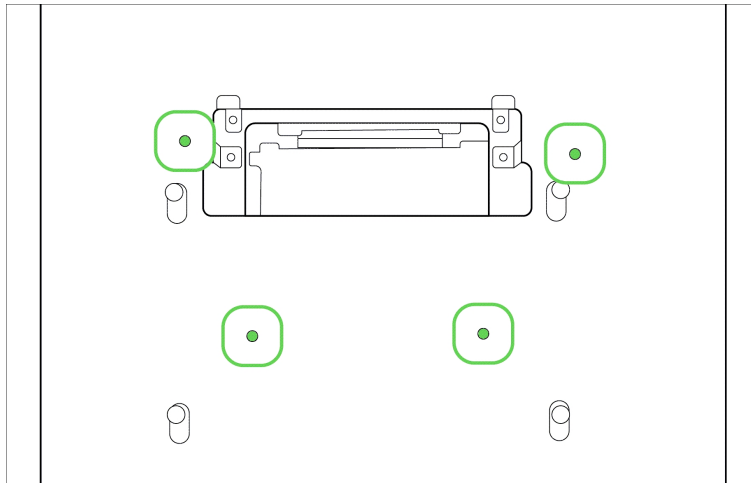

Figure 3-5. Identifying the four holes for the wing bolts on the top inside of the ballot box
7. Once aligned, affix the voting station to the ballot box using the four wing bolts (Figure 3-5).